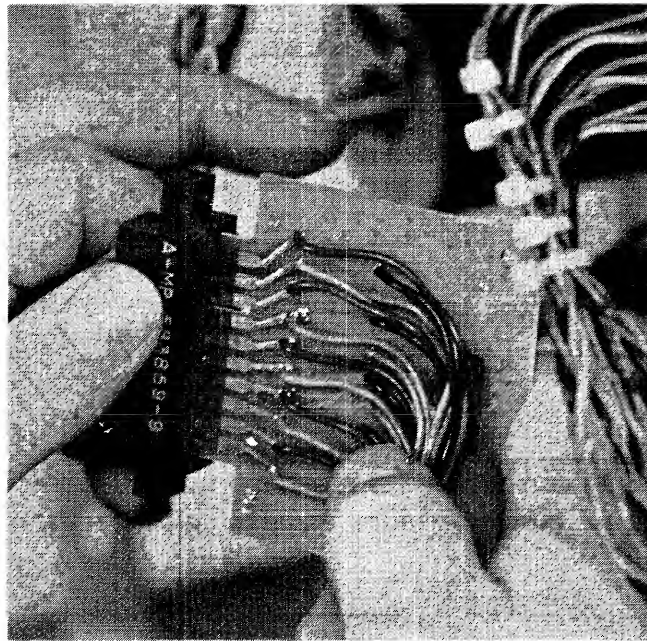

FIGURE 19 DRIVE EXTENDER CABLE ATTACHMENT
- f. Remove P2 from PCB and attach Drive Cable Extender (P/N 50467-0) to it and PCB. Reference Figure 19.